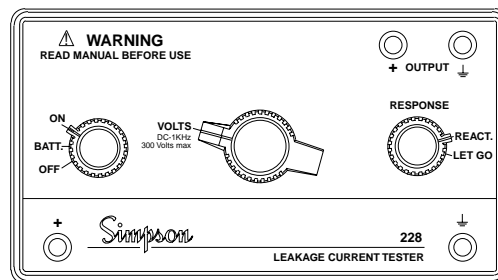

Figure 5
1. Turn the Instrument **Power Switch** to **ON** (see figure 5 below)